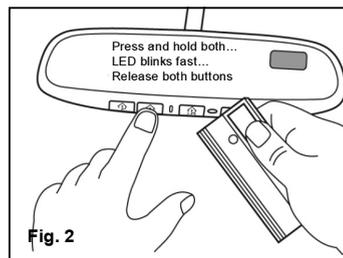

Fig. 2
4. Simultaneously press and hold both the chosen HomeLink® and hand-held transmitter buttons. Fig. 2